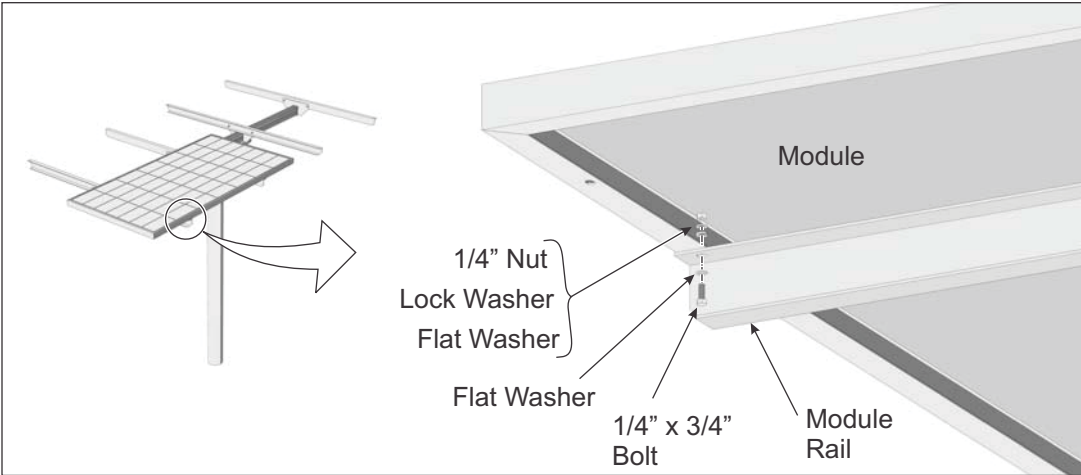

Figure 6-1: Installing PV Modules to Module Rails
- A. Place a southern most PV Module on the Module Rails. Align the mounting holes and secure with 1/4 inch x 3/4 inch bolts and hardware. Each Module has four attachment points. Finger-tighten for now. (See Figure 6-1)